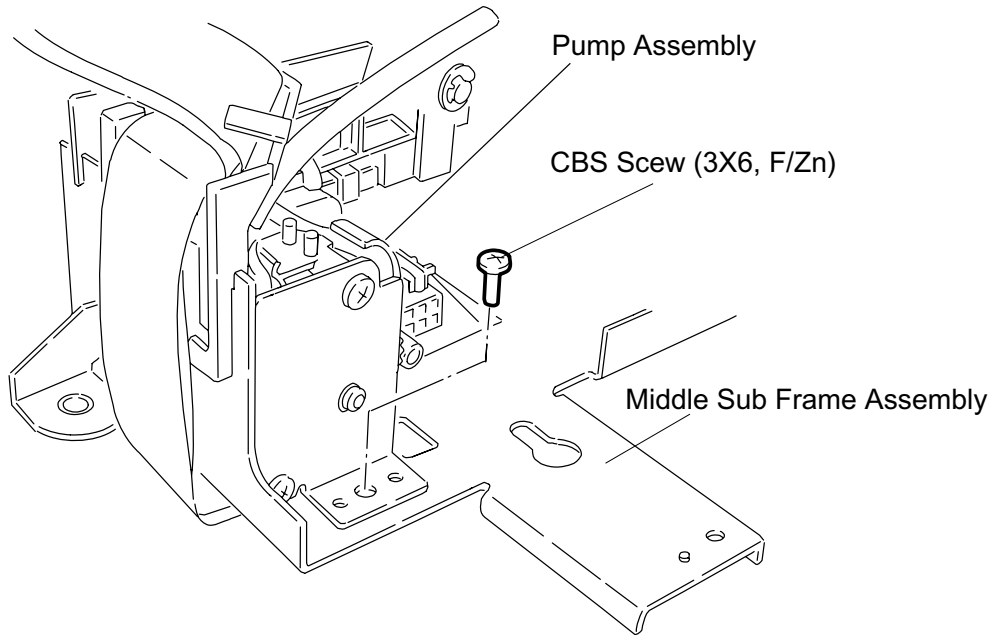

Figure 3-42. Pump Assembly Removal
3. Remove 1 screw (CBS, 3X6, F/Zn) securing the pump assembly to the middle sub frame assembly. (Refer to Figure 3-42.)